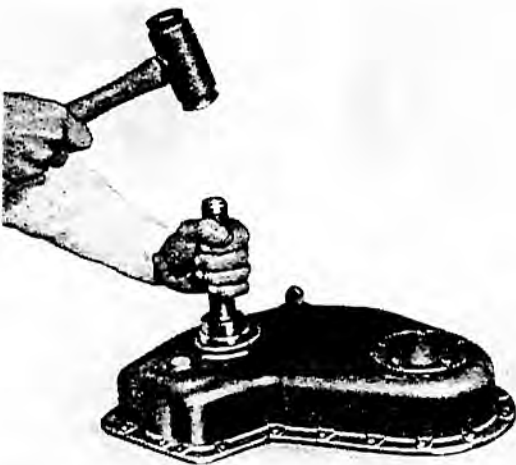

FIG. 128 REMOVING CRANKSHAFT FRONT OIL SEAL USING SERVICE TOOL MF44B WITH HANDLE No. 550
1. The crankshaft front oil seal situated in the timing cover can be removed with the aid of Service Tool MF.44B and Universal Handle No. 550. See Fig. 128.